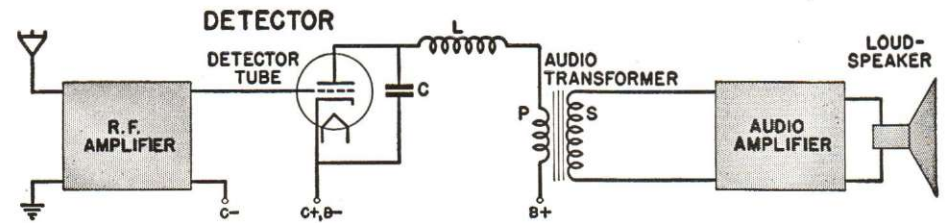

FIG. 19. Simplified detector circuit of a t.r.f. receiver.
**The Detector.** Now that the modulated r.f. signal has been built up sufficiently in strength, the r.f. carrier signal is no longer needed; in fact, we must get rid of the r.f. carrier now, so it will not interfere with the operation of the remaining stages. We separate the audio signal from its r.f. carrier with a vacuum tube operated in a special manner in the *detector* stage. A simplified version of one common type of detector circuit is shown in Fig. 19.
The signal current which gets through coil *L* and also flows through the primary of the audio transformer in Fig. 19 is the *audio signal* we want. Its pattern is shown in Fig. 20B, and is simply the pattern of Fig. 20A with the vertical lines of the r.f. signal removed.